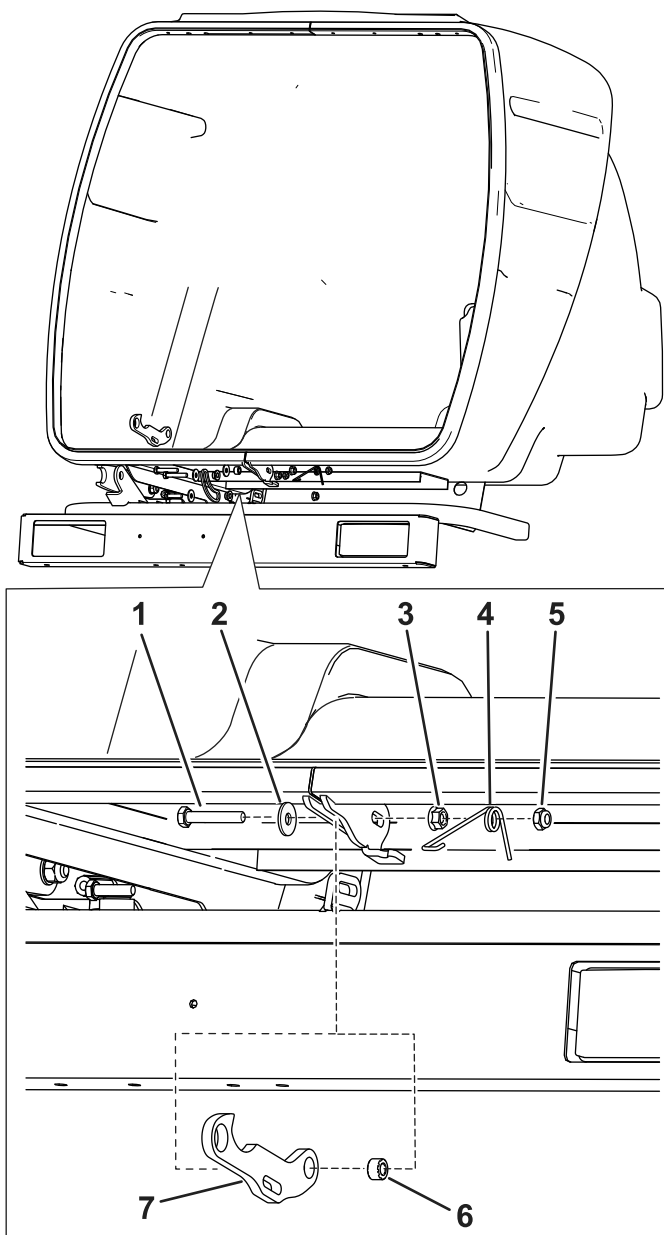

Figure 3
1. Install the hook and spacer to the hopper with a long bolt, flat washer, flange nut, spring, and locknut (Figure 3).